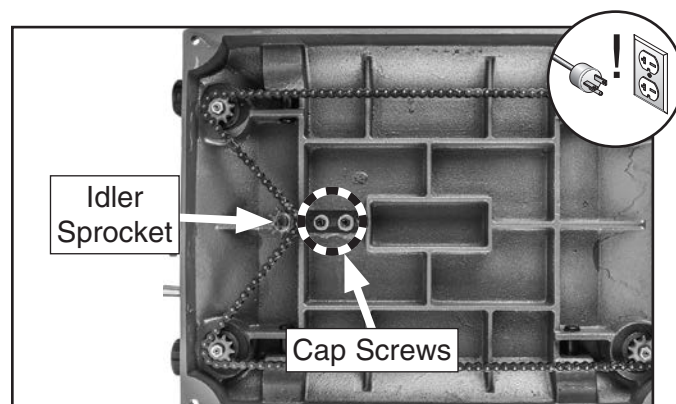

Figure 61. Table height chain adjustment (shown without stand for purpose of illustration).
2. Remove front and rear cabinet covers to access table height to chain (see **Figure 61**).
3. Loosen cap screws, then push idler sprocket against chain with moderate pressure. While maintaining pressure on idler sprocket, re-tighten cap screws (see **Figure 61**).